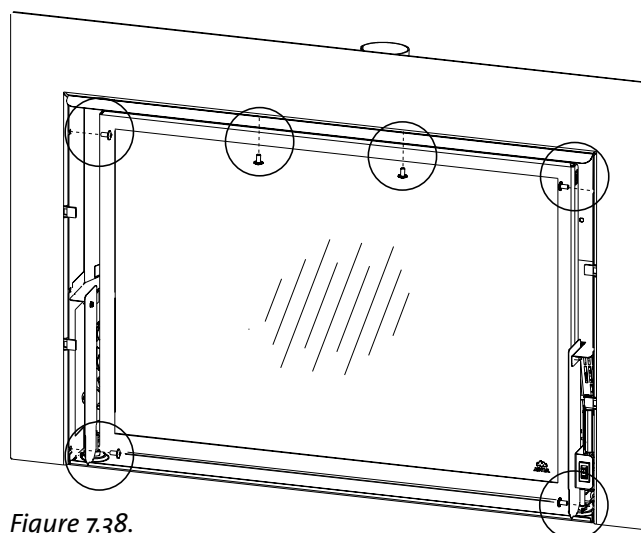

Figure 7.38.
1. Loosely attach the Backer Plate to the insert firebox using the ten, M6 x 8 phillip head screws as shown in Fig. 7.38. Tighten the screws in an alternating pattern.